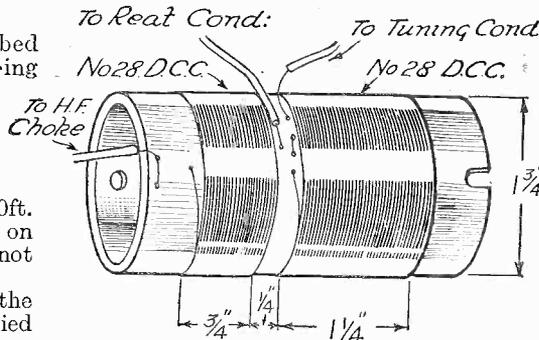

Fig. 1.—Winding details and connections for the coil.
grid winding and using the same gauge of wire, and winding in the same direction, wind on enough wire to fill a space of 1 1/4 in., thus completing the reaction coil. A little shellac varnish painted over the windings keeps them taut and firmly in place. For details of the coil see Fig. 1.
Before passing on to the actual points of design it will perhaps be better to get a grasp of the underlying principles and also a working knowledge of the component parts of which a mains unit consists. The idea will more readily be understood if reference is made to Fig. 1, where the complete supply unit is divided up into different sections, each of which is represented by a non-committal rectangle. It will be seen that the sections are few in number, and comprise: (1) the mains transformer, the purpose of which is to isolate the actual mains supply wires from the receiver, as well as to change the voltage to that required by the rectifier. In the case of an eliminator or mains unit of the so-called "all-mains" type, the transformer also contains windings which give 4 volts A.C. for heating the cathodes of indirectly-heated valves. (2) The rectifier, the object of which is to change the alternating-current mains supply into direct current which can be used for high-tension purposes. (3) The smoothing system, which contains an iron-cored choke and two or three condensers, for reducing the total output from the rectifier to the figures suitable for operation of the various valves in the set. This need not necessarily be considered as part of the mains unit, since it is usually (and more conveniently) made integral with the high-tension circuits of the set itself.
Fig. 1.—This diagram shows the principal parts of a mains unit arranged in their correct sequence. The last section—for voltage dropping—generally forms a part of the receiver.